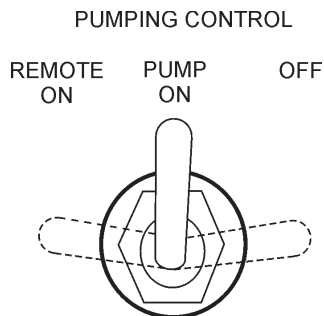

Figure 23. Pumping Control Switch (OFF)
- To begin pumping concrete, place the **pumping control switch** in the **ON** position (Figure 23).